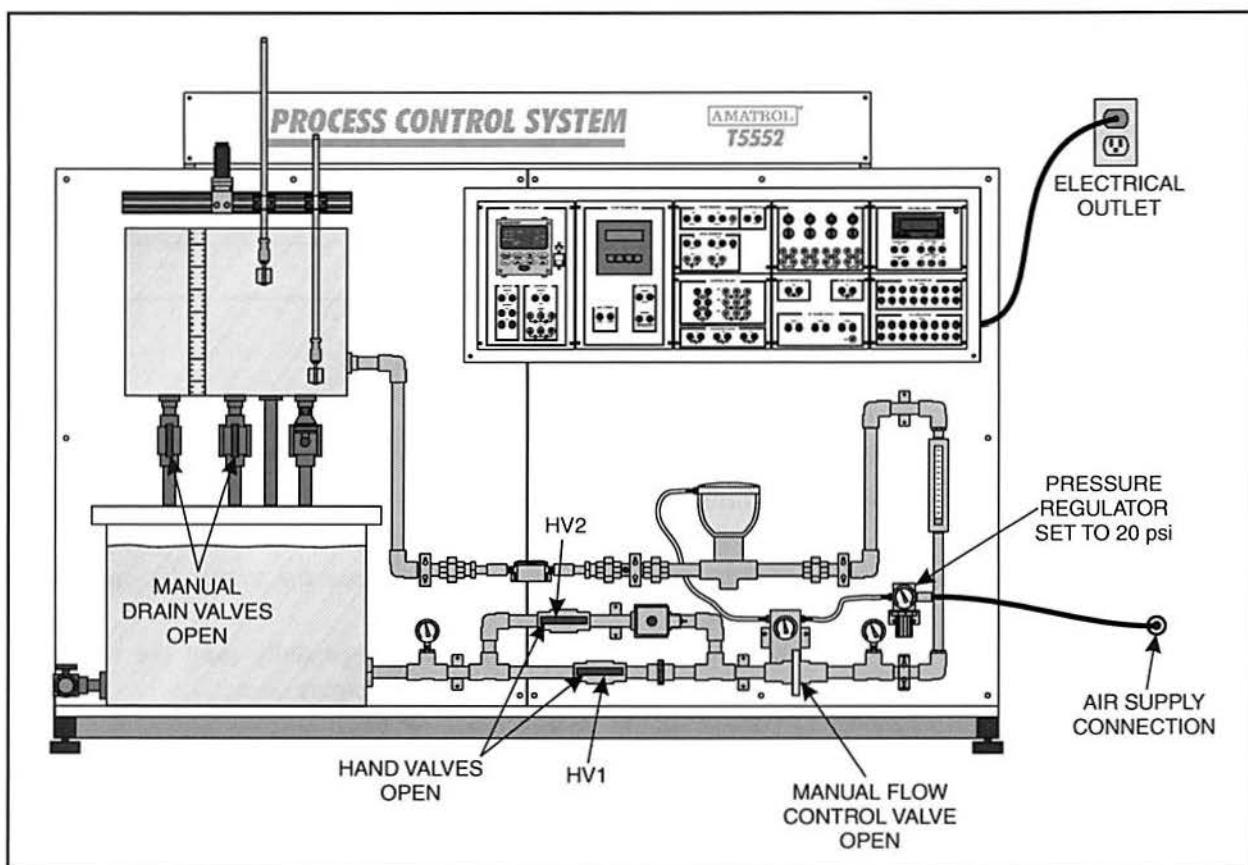

Figure 38. T5552 Set Up
- 2. Perform the following substeps to set up the T5552, as shown in figure 38.